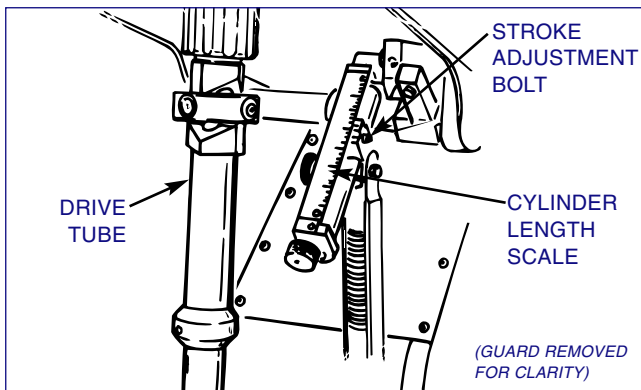
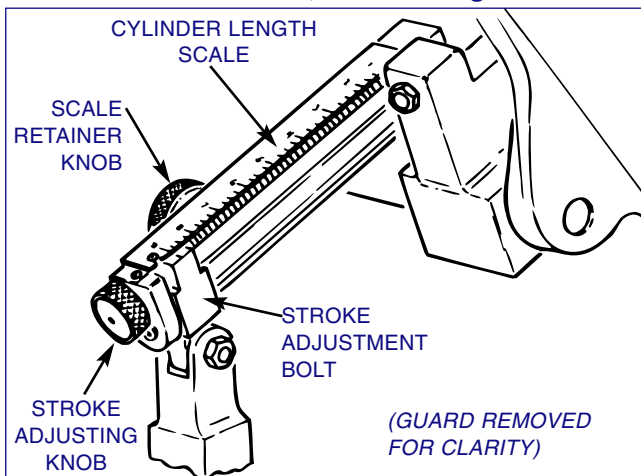

FIGURE 3-27, Stroke Length
FIGURE 3-28, Stroke Adjustment
1. Using the value for stroke length on Setup Screen 2, Loosen Stroke Adjustment Bolt and turn stroke adjusting knob so that the index mark lines up with the desired stroke length on the graduated scale (*see figure 3-27*). If necessary use the clutch handle to slowly stroke the machine until the stroke adjustment is easily seen (*see Figure 3-28*).